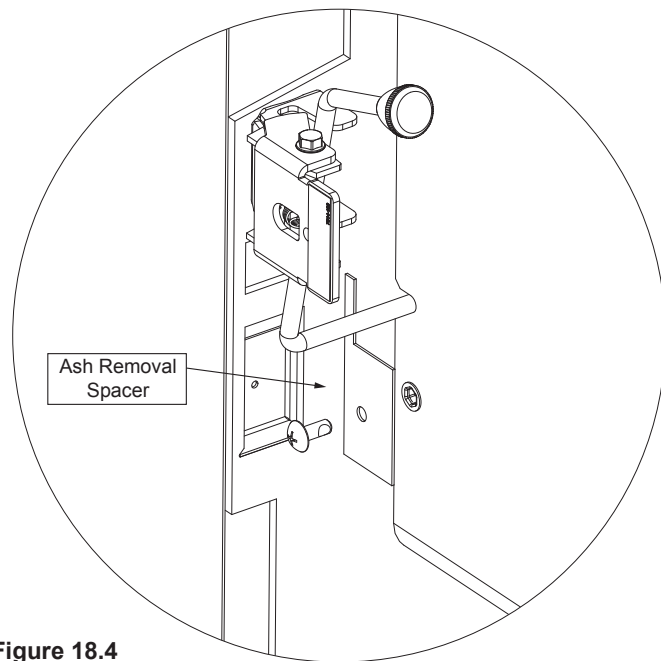

Figure 18.4
3. Install ARS Spacer on left hand side with one bolt using Phillips head screwdriver (**Figure 18.4**).
- Install ARS Spacer on left hand side with one bolt using Phillips head screwdriver (**Figure 18.4 on page 18**).